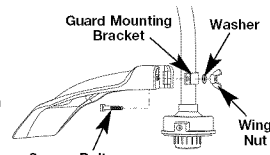

Fig. 3
2. From inside the cutting head shield, push the square bolt through the hole until the threaded end protrudes through the guard mounting bracket (Fig. 3).